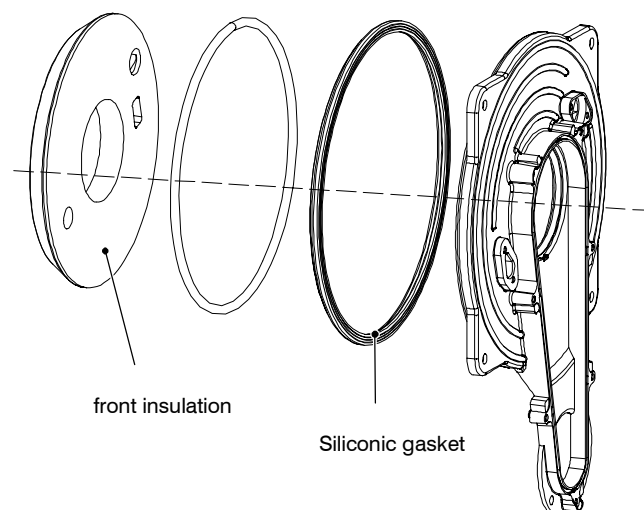

Fig. 18.6
- 3 Remove the front insulation panel (Fig. 18.6).
**The siliconic gasket (Fig. 18.6) must be replaced if damaged or anyway every 2 years.**
**The front insulation (Fig. 18.6) must be replaced if damaged or wet**